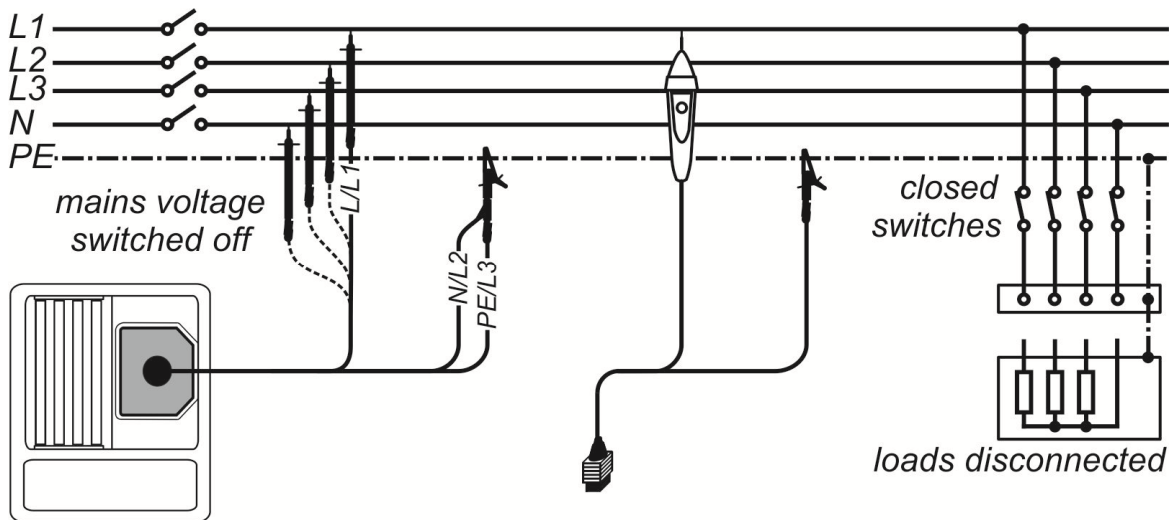

Figure 5.6: Connection of the three-wire test cable and the optional "Commander" test probe (044155)
- ❑ Connect the test cables to the test object (see figure 5.6).